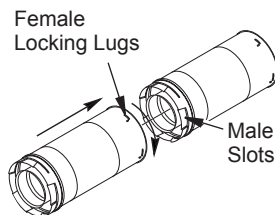
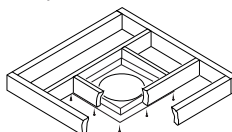

Figure 8 - Vent Pipe Connections
Figure 17 - Installing Firestop
Twist-Lock Procedure: Female ends of pipes have locking lugs (indentations). These lugs will slide straight into matching slots on male ends of adjacent pipes. Push pipe sections together and twist one section clockwise approximately one-quarter turn until sections are fully locked (see Figure 8).
1. Cut a 11 1/2" square hole in ceiling using locating hole as a center point. Opening should be framed to 11 1/2" x 11 1/2" inside dimensions, as shown in Figure 8 on page 9 using framing lumber the same size as ceiling joists. If area above ceiling is an insulated ceiling or an attic, nail firestop from top side. This prevents loose insulation from falling into required clearance space. If area above ceiling is a living space, install firestop below framed hole. Firestop should be installed with no less than three nails per side (see Figure 17).
2. Assemble desired lengths of pipe and elbows necessary to reach from fireplace flue up through firestop. Be sure all pipe and elbow connections are fully twist-locked (see Figure 8, page 10).